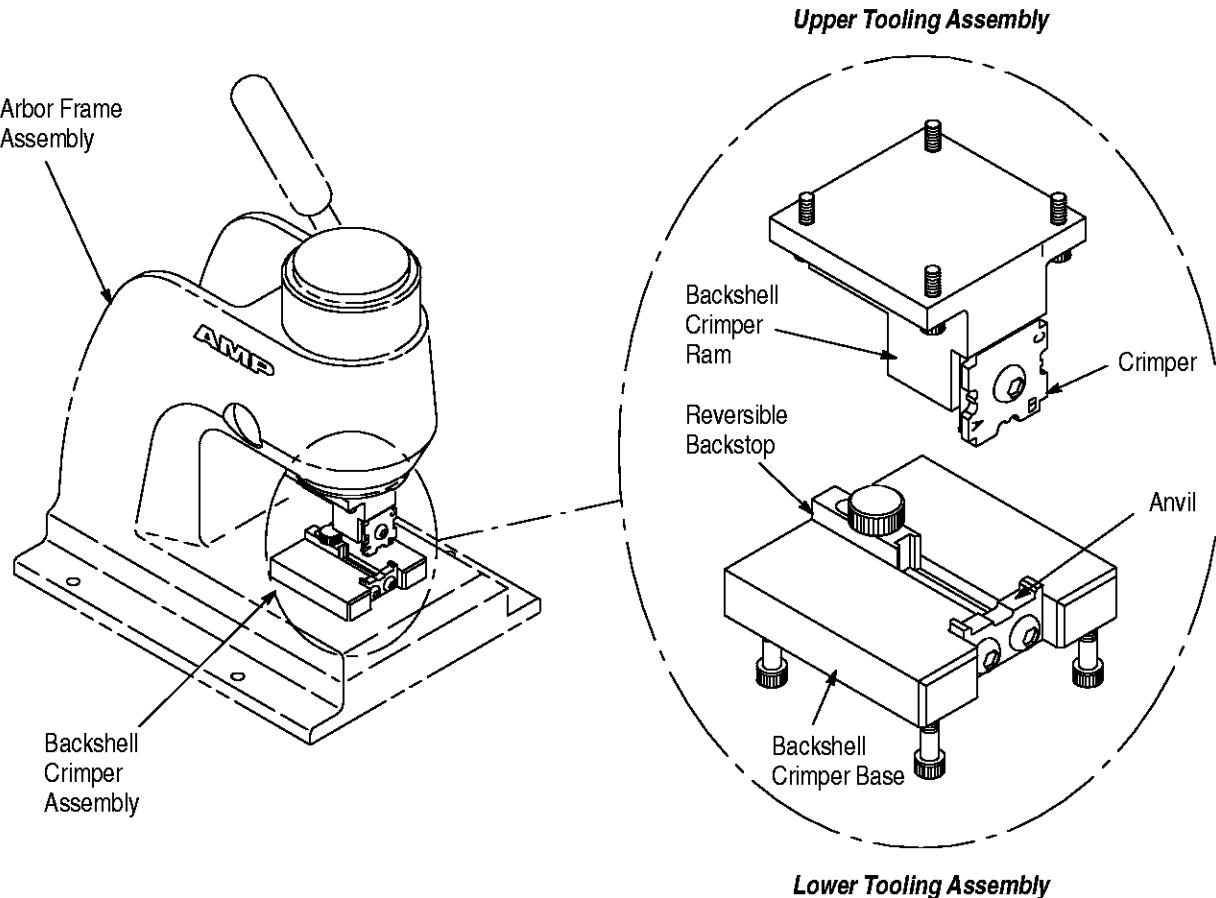

Figure 1
**2. DESCRIPTION** (Figure 1)
To install the crimper assembly, refer to Figure 1 and proceed as follows: